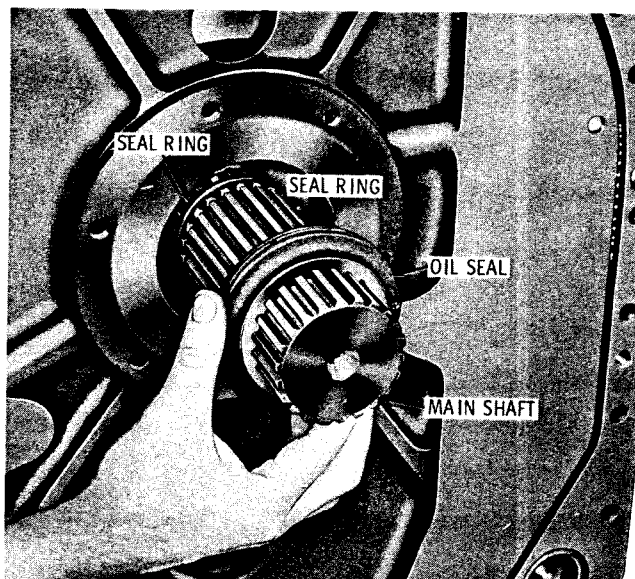
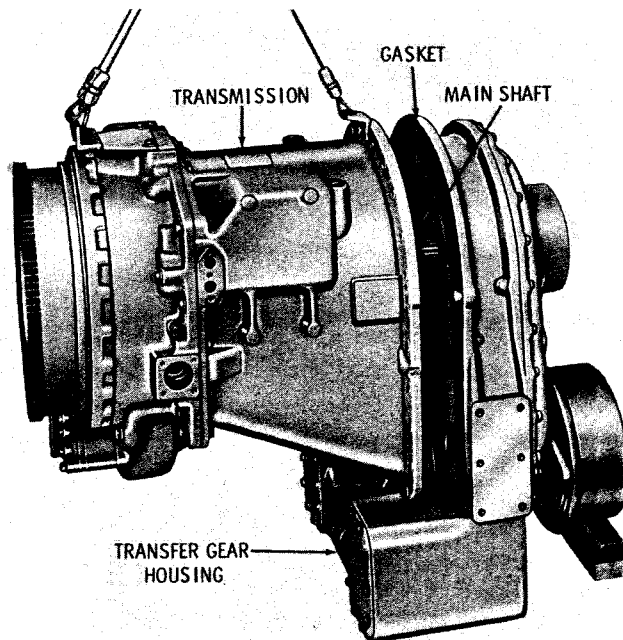

Fig. 7-48. Installing main shaft oil seal components
Fig. 7-51. Installing transmission onto transfer gear housing assembly
(1) Support the transmission horizontally with a sling and hoist (refer to fig. 7-51). Lubricate the seal ring with oil-soluble grease and install it into the groove in the main shaft (fig. 7-48). Install the Teflon step-joint seal ring into the oil seal. Retain the seal ring with oil-soluble grease.
(2) Install the main shaft oil seal, large diameter first, onto the main shaft (fig. 7-48). Push it up to the seal ring installed on the main shaft.
(6) On transmissions beginning with S/N 26374, install gasket 10 (B, foldout 10) onto the transfer gear housing (fig. 7-51). Block the gear housing to prevent its tipping rearward.
(7) Install the transmission onto the transfer gear housing (fig. 7-51). Rotate the main shaft, or brake drum, to engage the main shaft splines in the transfer drive gear.